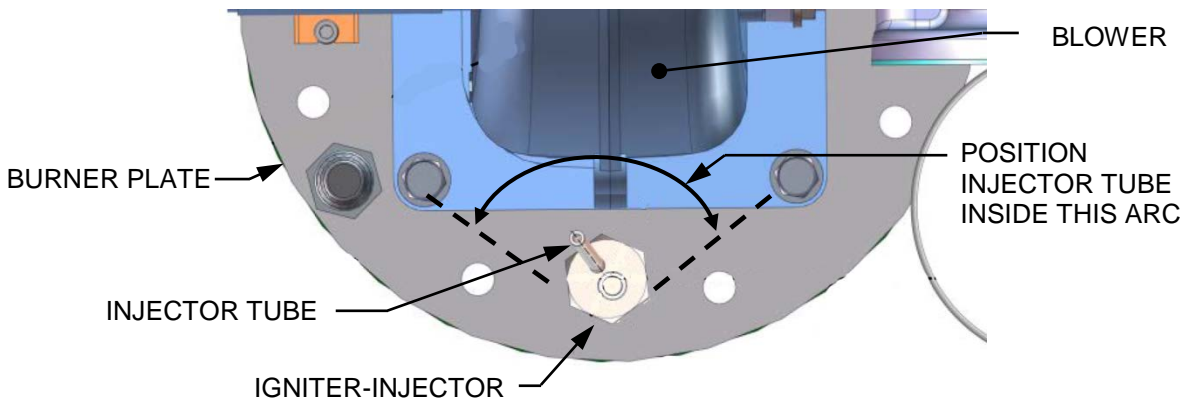

Figure 5-3a: BMK 750/1000 Igniter-Injector Orientation
8. Reinstall the igniter-injector in the burner plate using 1 to 3 indexing washers, as needed, so that when the igniter-injector is tightened, its injector tube will be positioned within the approximately 120° arc shown in Figure 5-3a through 5-3c, below. Note, the recommended injection tube positioning differs for the positioning recommended in the past.
During reassembly, apply a light coating of high-temperature, anti-seize lubricant to the threads of the igniter-injector and grounding screw. Also, ensure that the igniter-injector is properly positioned as indicated in Figure 5-3a. Torque the igniter-injector to **14 - 15 ft-lbs. (19.0 - 20.3 Nm)**.